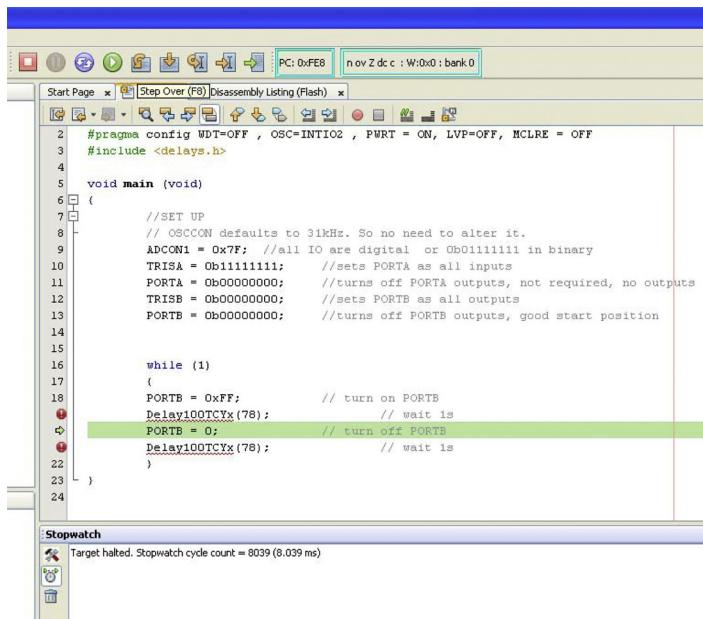

FIGURE 11.42 Using the stopwatch.
The stopwatch is used to time program execution between 2 breakpoints. At the moment MPLABX IDE v1.30 stopwatch will not permit oscillator frequencies to be altered. It does display the number of timing cycles. I find it useful to check my delays are correct. Eg. In flash.c to check Delay100TCYx(78) on line 19 is a 1 second delay, put the cursor on line 19 and run to cursor. Then step over to line 20. Figure 11.42